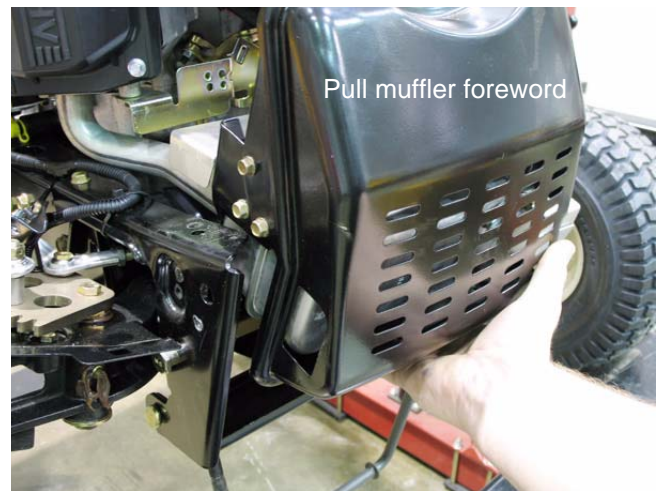

Figure 2.3
4. Pull the muffler cover and muffler out together. See Figure 2.3.